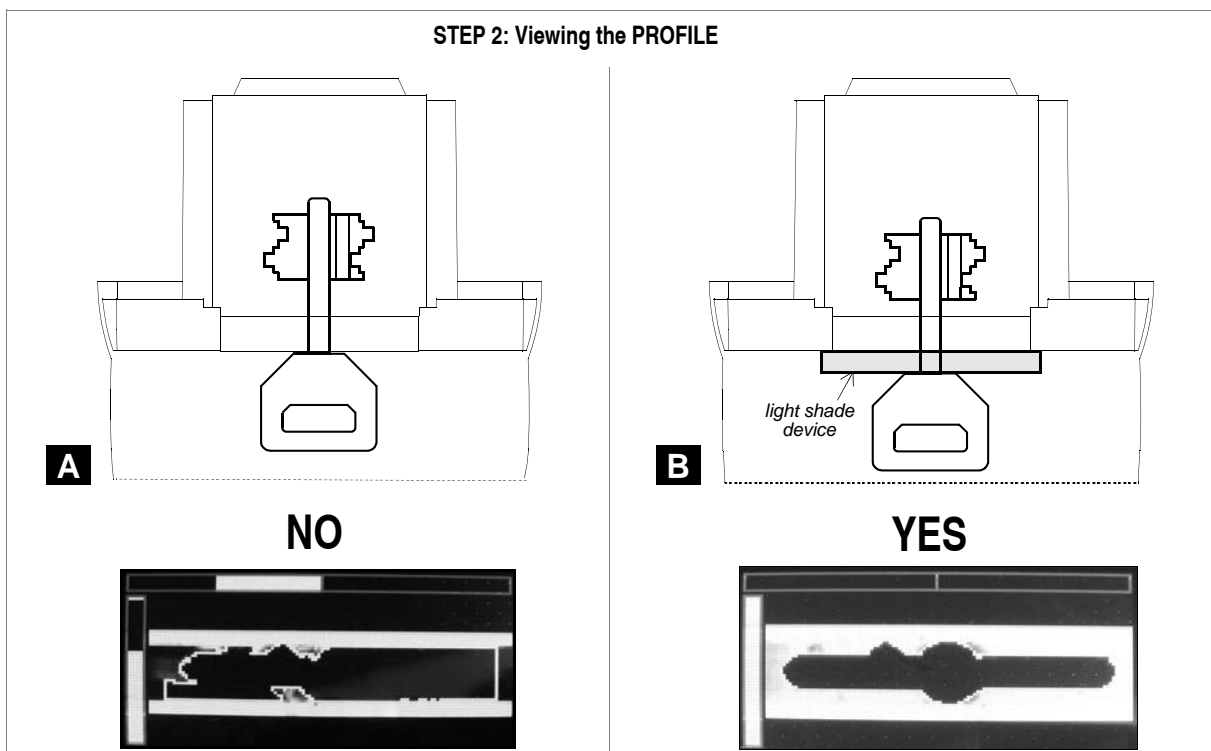

Fig. 30
- 4) STEP 2: fit the key again with the light shade device (fig. 30-B) and press ENTER.